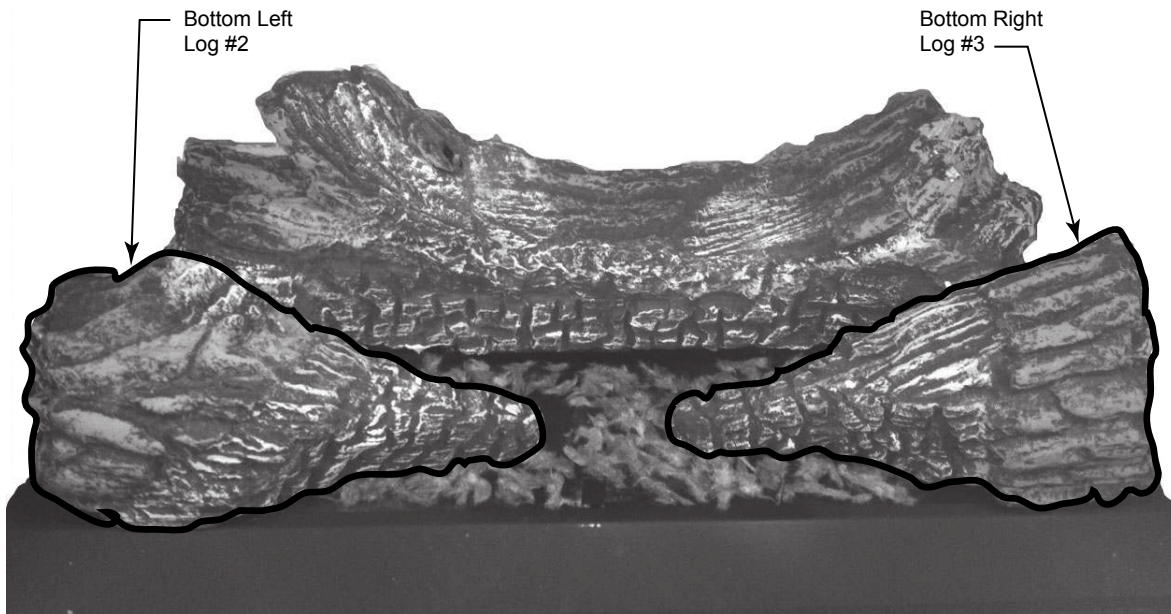

Figure 59
2. Place the bottom left and right logs (#2 & #3) on the two (2) pins located on the left and right sides of the false hearth toward the front. *Figure 59*